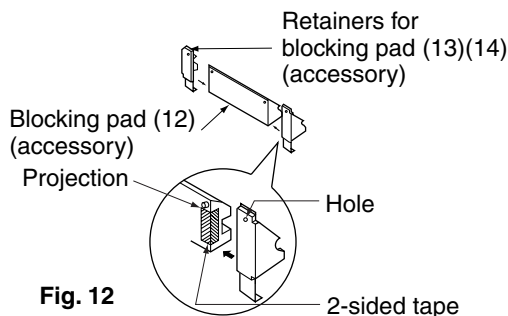

Fig. 12
3. Attach the retainers to the blocking pad. (Refer to Fig. 12)